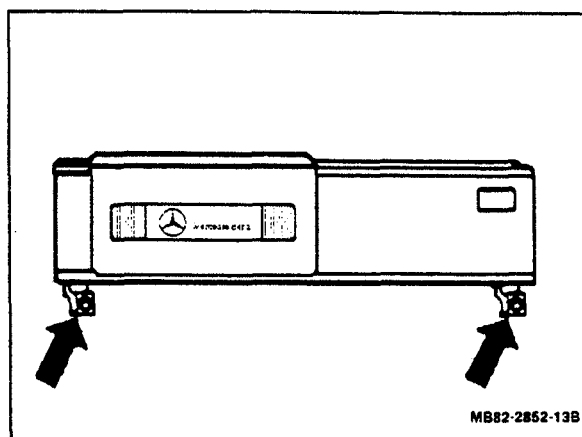

Figure 2
4. Install side brackets on bottom of CD changer unit with the mounting holes of the brackets facing out (Fig. 2). Secure with two M4x6 bolts.